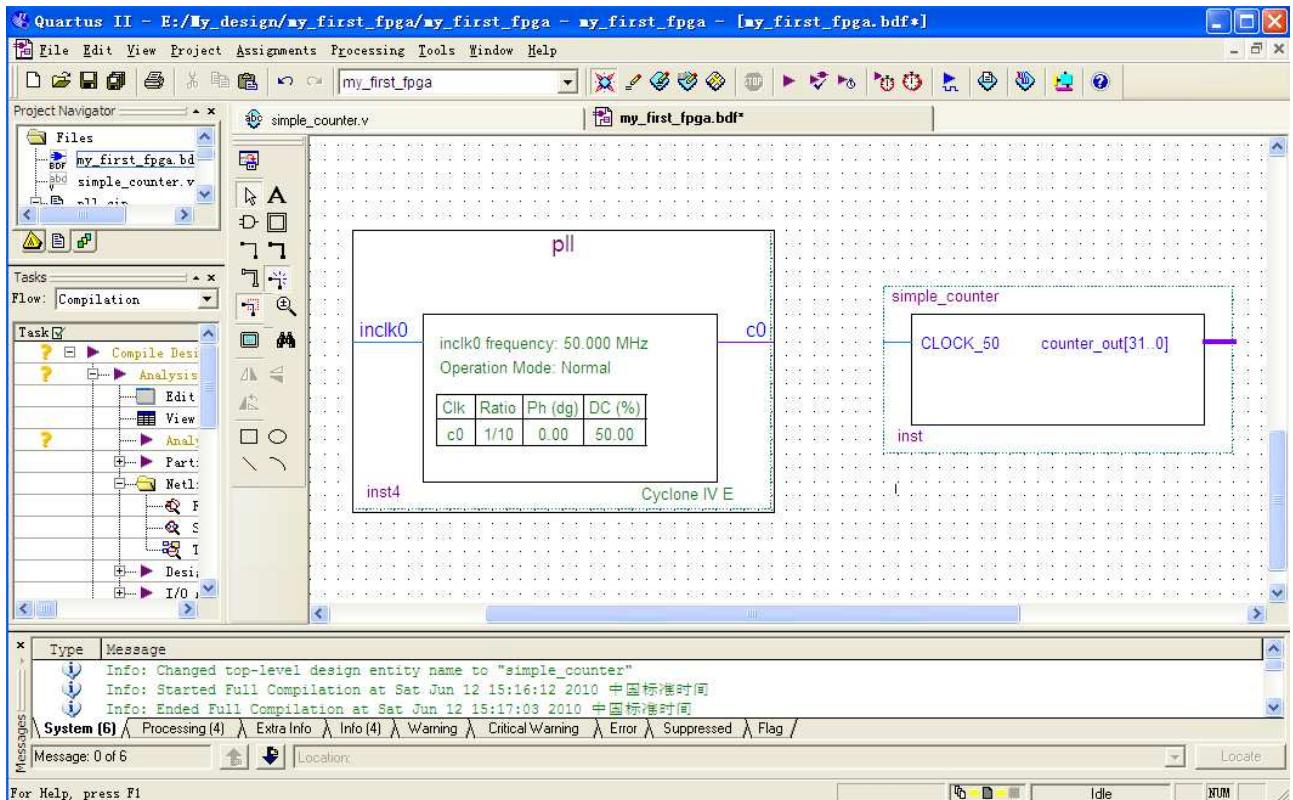

Figure 3-15 Place the PLL Symbol
11. Click OK and place the pll symbol onto the BDF to the left of the simple_counter symbol. You can move the symbols around by holding down the left mouse button, helping you ensure that they line up properly. See **Figure 3-15**.